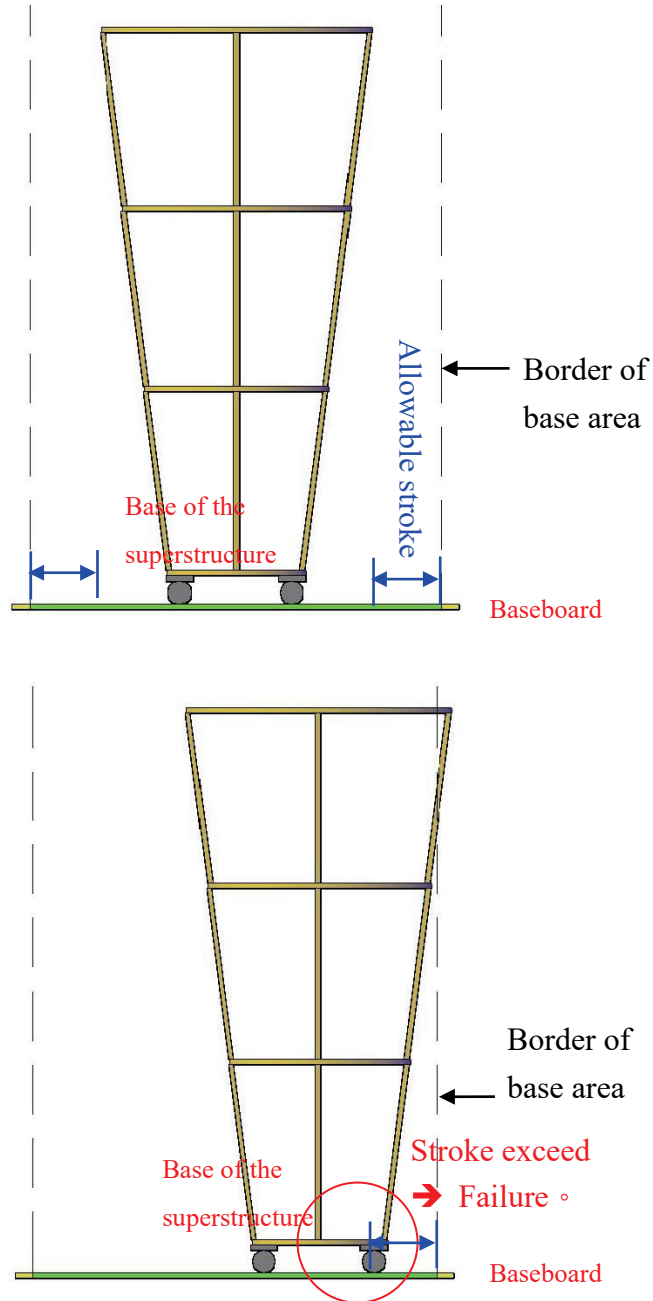

Figure 5: Illustration of the allowable stroke of the isolation system
- If a seismic isolation system is used and the system exceeds the allowable displacement during a test, the model building is regarded as failure (Figure 5).